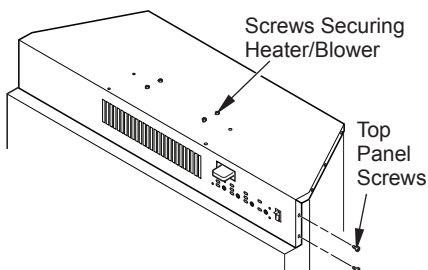

Figure 10 - Removing Top Panel and Heater/Blower
1. Remove screws from around top panel of firebox (see Figure 10).
4. Remove screws holding heater/blower to top panel (see Figure 10).